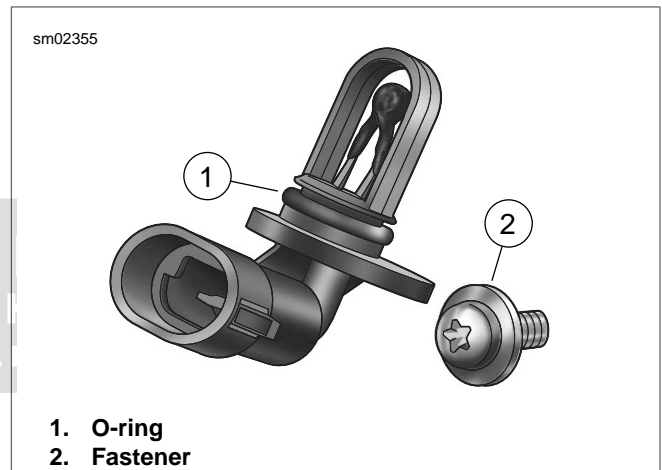

Figure 4-12. Intake Air Temperature Sensor
1. See Figure 4-12. Inspect O-ring (1) in groove of intake air temperature sensor for cuts, tears or signs of deterioration. Install **new** O-ring if necessary.
3. See Figure 4-12. Install fastener (2) and tighten to 15-20 **in-lbs** (1.7-2.3 Nm).